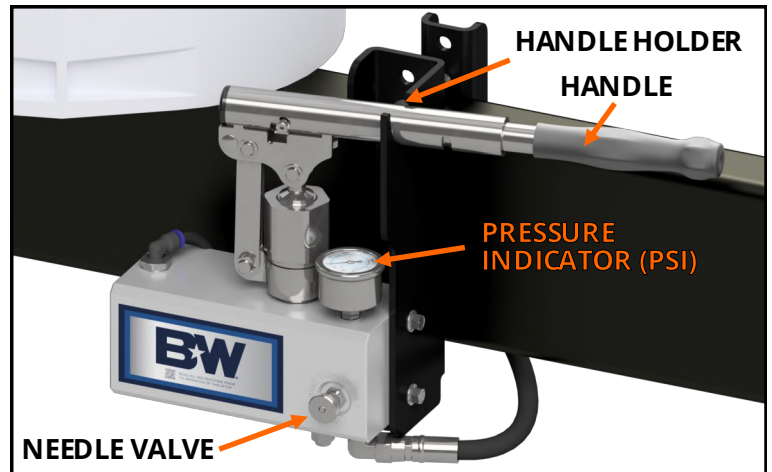

FIGURE J2: View of the driver side of A-frame
5. **Add pressure to the hydraulic cylinder.** Close the needle valve. Pull the pump handle out of the handle holder and push in then twist counter clockwise to extend it. Pump the handle of the hydraulic pump to restore load from the rear tires to the front tires, **see Figure J2.** Decrease the height of the front wheel well until it has been lowered to the target measurement.